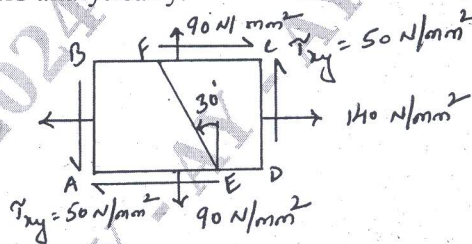

Fig.Q3
- 3 A point in a strained material is subjected to stress as shown in Fig.Q3 below. Find graphically the normal, tangential and resultant stress across the plane EF. Also determine the maximum, minimum principal stresses, its locations, maximum shear stress and its locations. Check the answers analytically.